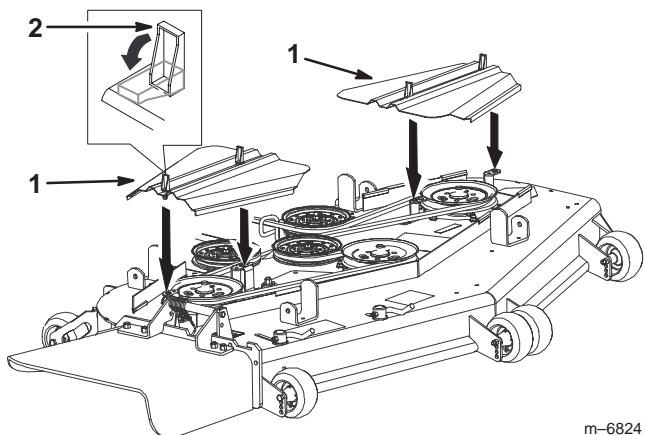

Figure 68
3. Remove the belt covers (Fig. 68).
10. Install the belt covers and close the latches (Fig. 68).